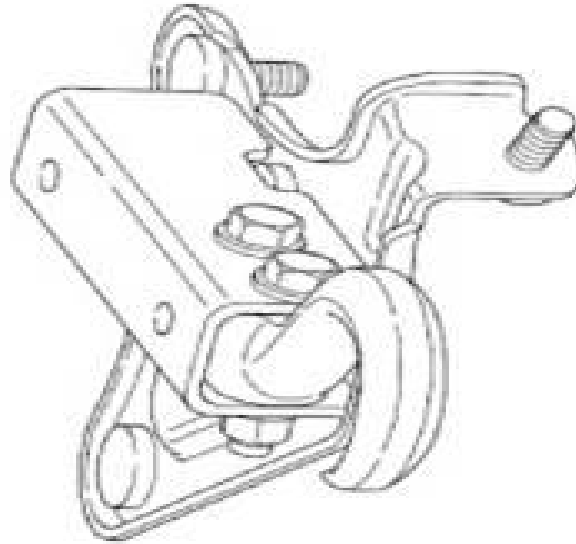
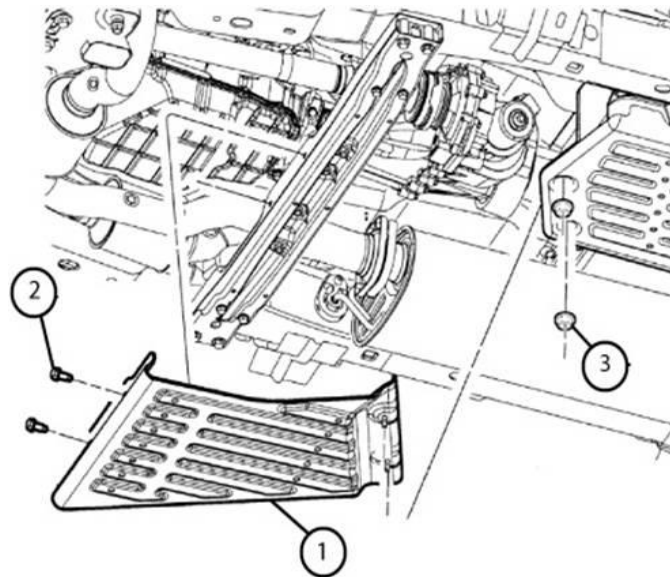
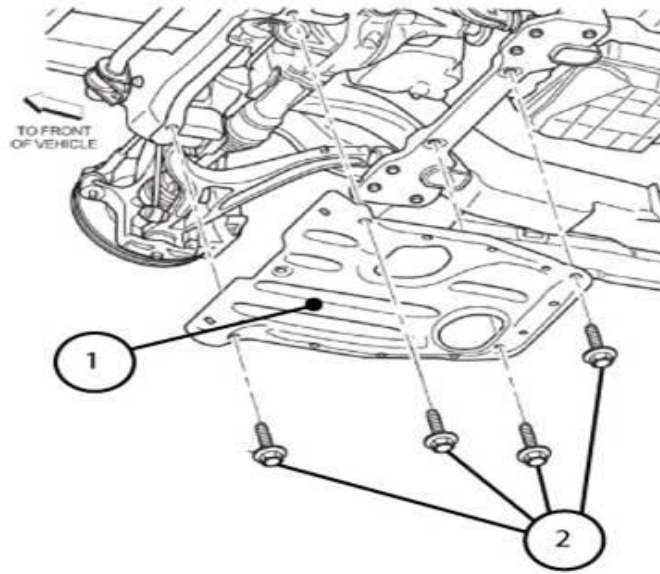
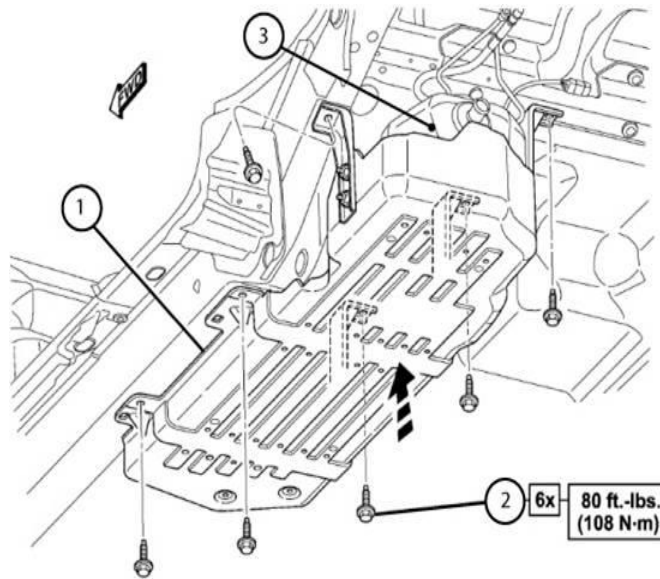

Fig. 1 Front Tow Hook
Fig. 2 Transfer Case Skid Plate
Fig. 3 Front Skid Plate
Fig. 4 Fuel Tank Skid Plate
1. Inspect the vehicle for front tow hooks (Fig. 1), transfer case skid plate (Fig. 2), front skid plate (Fig. 3) fuel tank skid plate (Fig. 4) and rear tow hook for vehicles equipped without the trailer tow package . Were the components installed on the vehicle?
1. Install the front skid plate as shown in (Fig. 3) and torque all mounting bolts to 19 ft.-lbs. (25Nm).